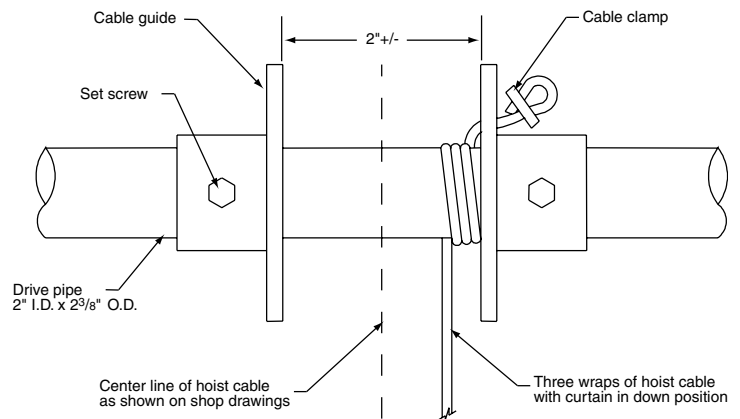

Figure 4
- ③ Make small cuts in the top pocket to attach the wire rope cable around the 1 5/8" pipe.
- ④ Operate the winch to raise the curtain into position.
- ⑤ Once raised to proper height, attach the chain from the drive pipe support assemblies around the top pipe and disconnect the wire rope cable. A small cut is required in the pocket for the chain.
- ⑥ Relocate cable guide sleeves and set distance (See Fig. 4).
- ⑦ Thread wire rope cable through grommets. Pull tight and attach around 1 5/8" pipe. Small cut required in pocket for wire rope cable.